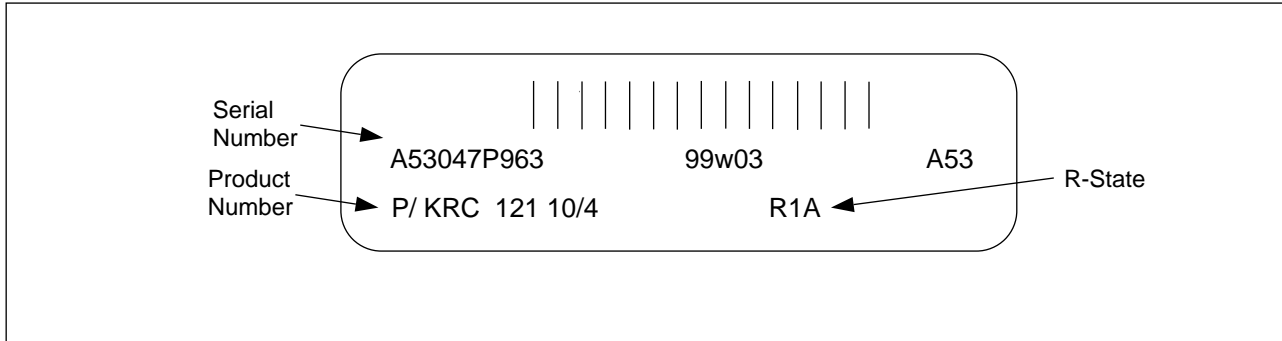

Figure 4-35. Unit Product Label
- Locate the product labels on all of the units in the cabinets. Each unit has a product label located on its front panel, as shown in Figure 4-35 on page 4-52, indicating its product number and revision state.